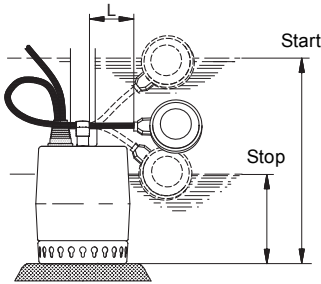

Fig. 6 Start/stop levels, Unilift KP-A
To enable the float switch to start and stop the pump, the free cable length (L) must be minimum 70 mm and maximum 150 mm. See fig. 6.